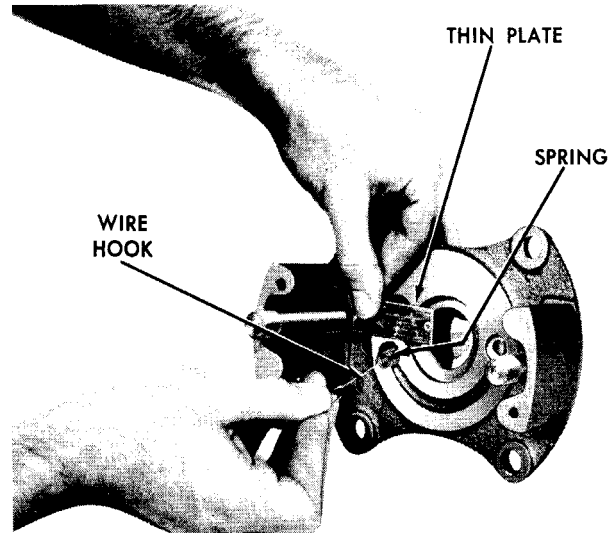

Figure 18. Reassembling the solenoid frame
2. Pull down spring using a wire hook and insert thin plate to hold spring, as shown in Figure 18.